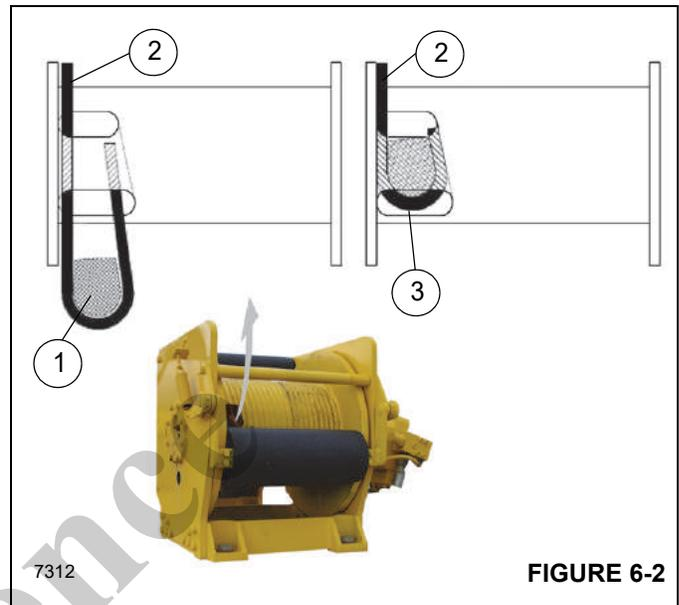

FIGURE 6-2
3. Insert the cable through the slot and position around the anchor wedge (1), (Figure 6-2).
**NOTE:** If the wedge does not seat securely in the slot, carefully tap (3), (Figure 6-2) the top of the wedge with a mallet.